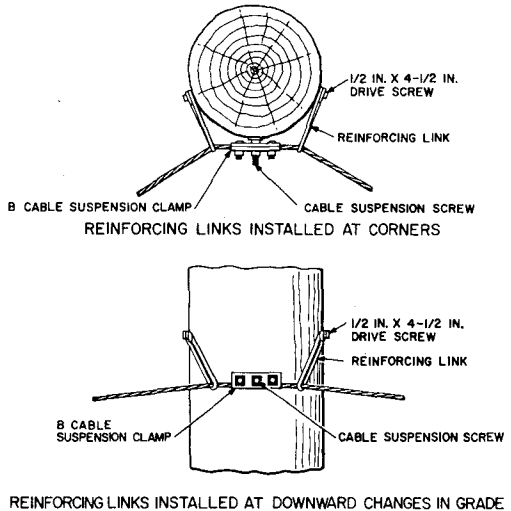

Fig. 11—Reinforcing Links Installed on Pole
7.03 When required, place the reinforcing links after the strand has been run out but *before* it is tensioned so the links will support any corner pull or downward change in grade as shown in Fig. 11.